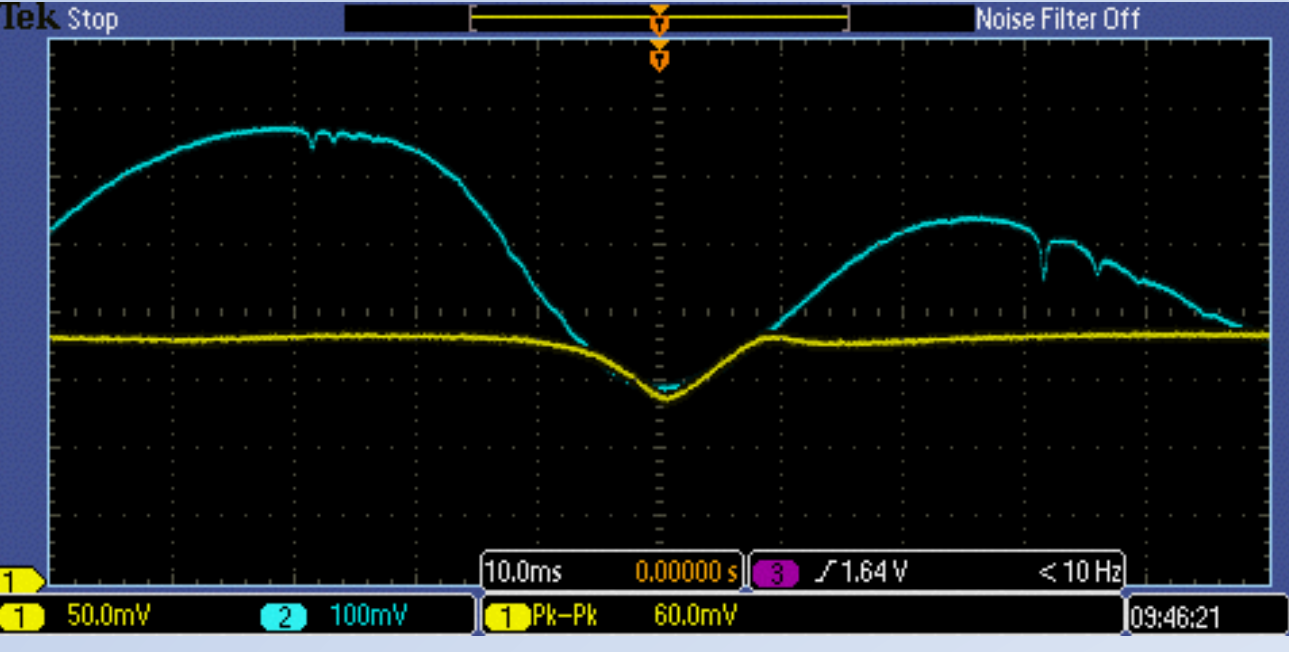

Figure 6: Screen grab from the oscilloscope. The dip indicates resonance of atoms in the vapor cell with the laser.
- When the laser is on resonance with the atoms, there is a sharp decrease in absorption signal since many of these atoms have been pumped out of the ground state and will not be able to absorb any photons from the resonant probe beam (see Figure 6 below).
Figure 6: Thermal test results show a gradual decrease in laser power until just above 35°C, where laser frequencies jumped several GHz and laser power suddenly increased, indicating mode hops. CAL is expected to operate without mode hops up to and beyond the allowable flight temperature (AFT) of 35°C for the heat exchanger plate, where lasers reside.